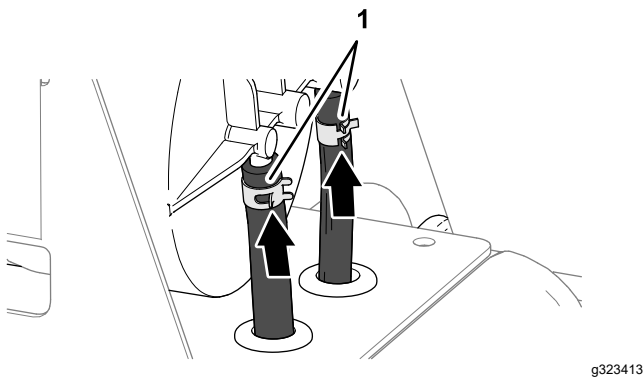

Figure 123
4. Secure the hoses to the fittings with the clamps (Figure 123)